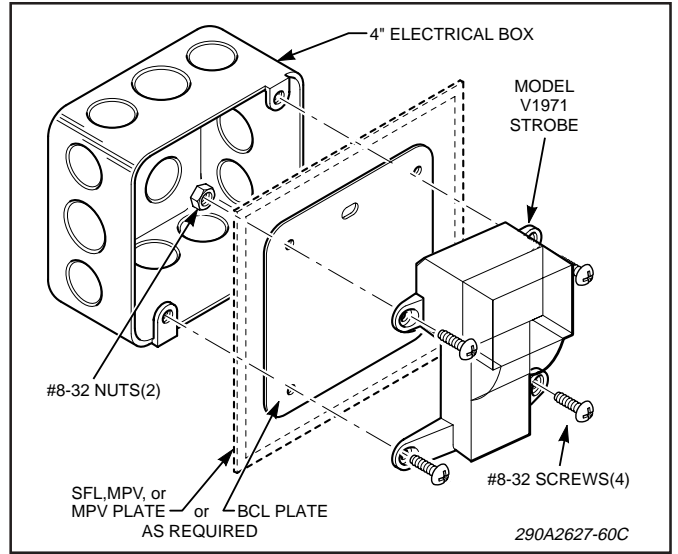

Figure 3. MPV, SFL, or BCL Adapter Plate Mounting.
1. MPV, SFL, BCL Adapter Plates (see figure 3).
adapter plate as shown in figure 3. Attach the light to the plate, using two of the supplied #8-32 screws and nuts. Perform the electrical connections described in paragraph II.C. Electrical Connections, and then secure the adapter plate to the 4-inch electrical box with two #8-32 screws.